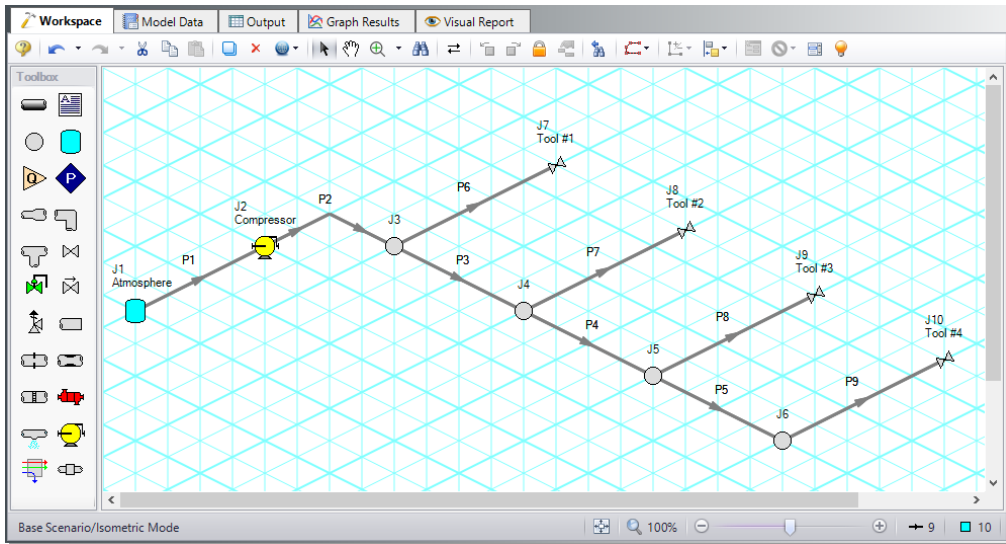

Figure 3.17 Compressed air system with isometric grid shown
that are offset by 60° , representing the x, y, and z axes. Figure 3.17 shows the compressed air system built on an isometric grid.
3. Place junctions J1-J7 on the Workspace in the positions shown in Figure 3.17.